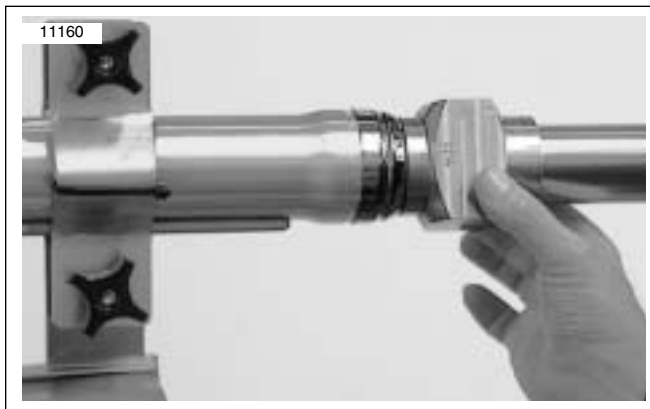

Figure 2-141. Install Chrome Dust Cover
5. See Figure 2-141. Remove FORK SEAL DRIVER (B-45305), reverse tool to short side of tool to prepare to install chrome dust cover. Rotate slider cover to match any removal burrs in slider and tap chrome dust cover into place.